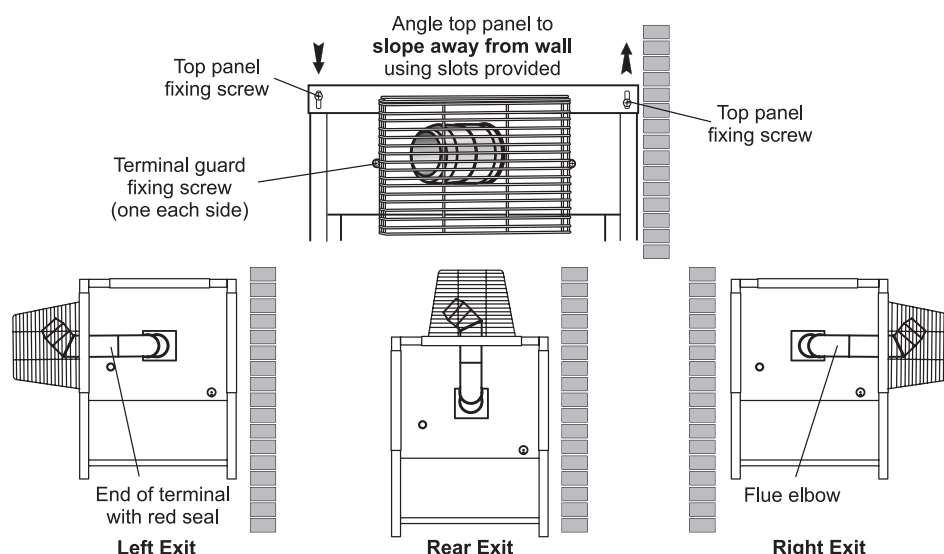

Figure 4-1: Standard low level flue provided with Outdoor Module
9. The top panel of the casing has been designed so that it may be fitted to create a slight slope away from the side positioned against the wall. To tilt the top panel, loosen the four top panel casing screws and push down on the side furthest from the wall. Tighten the screws. See Figure 4-1.